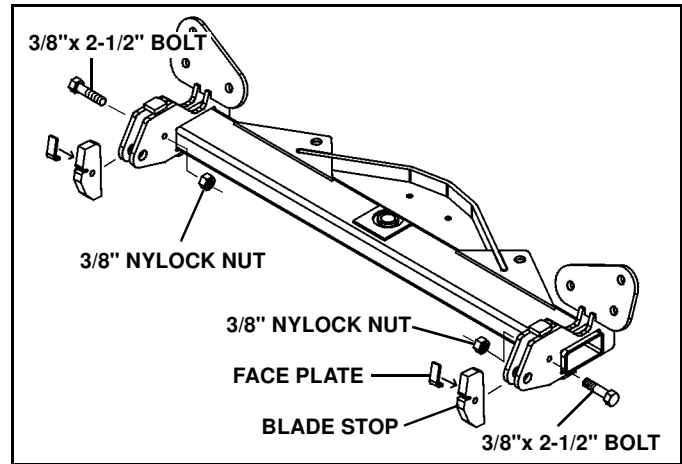

Figure 1-4
2. Slide the metal face plates into the blade stops from the side. Place the stops between the lugs on the swing frame. Secure with 3/8" x 2-1/2" bolts and locking nuts. (See Figure 1-4). Bolts and nuts are in the blade parts bag.